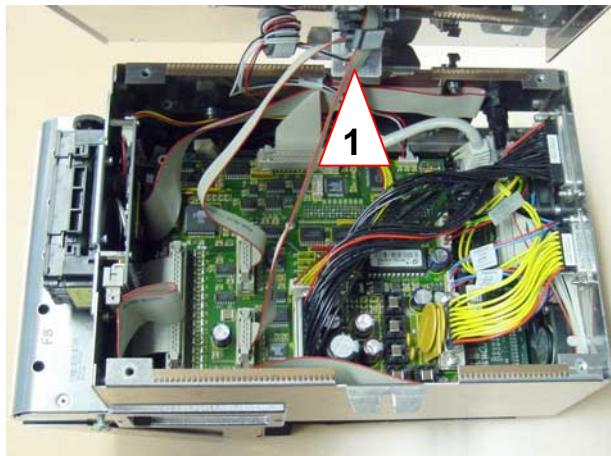

Fig. 3-47 PC tower (opened)
3. Lift the rear panel and unplug the cable connections (see Fig. 3-47, **1**).